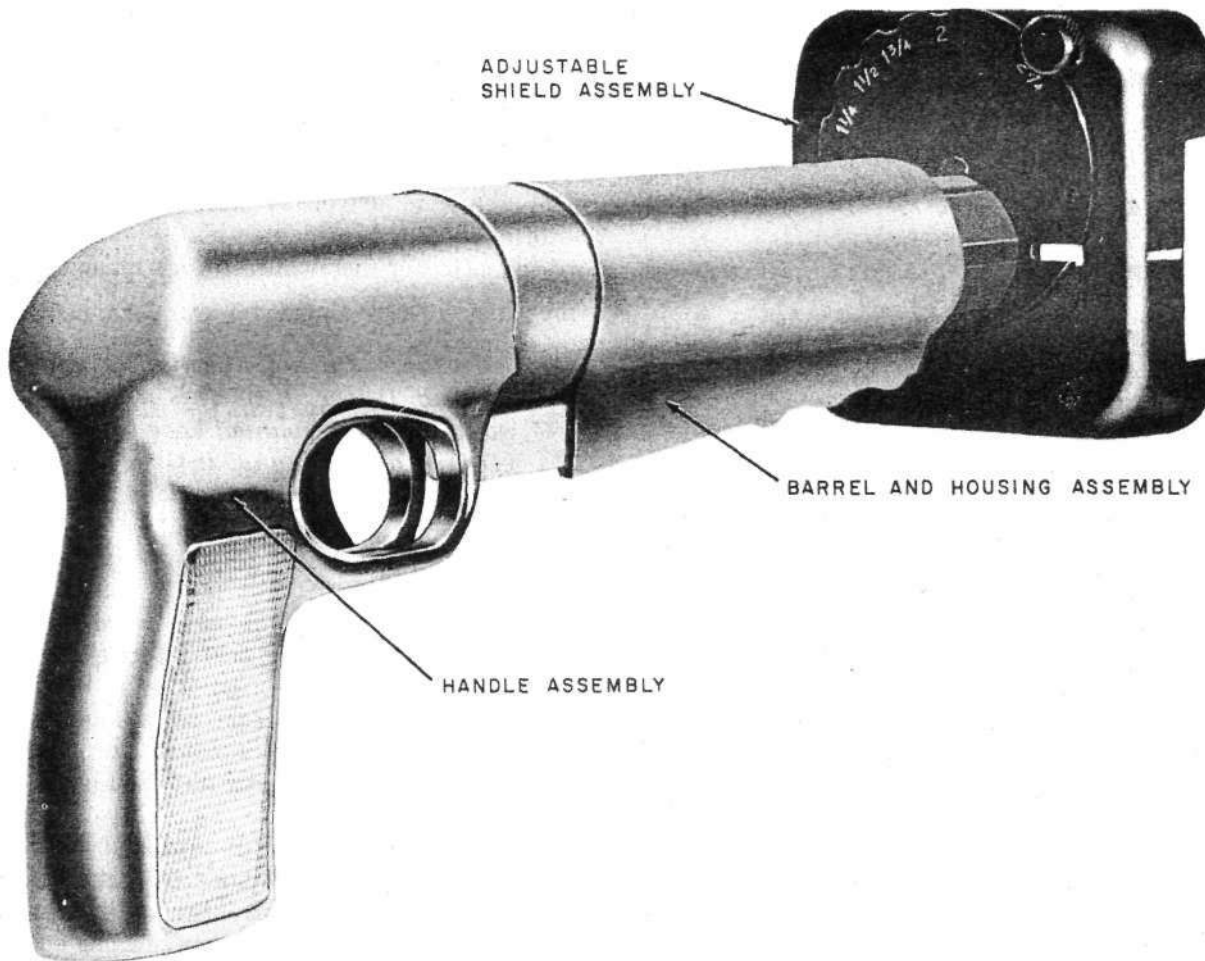

Fig. 1—Typical Stud Driver
2.01 The B Stud Driver is a powder-actuated, low-velocity tool that utilizes the energy from a special cartridge (the B or C Power Load) to drive a piston that acts as a hammer which sets a masonry fastener into steel or concrete. A typical stud driver is illustrated in Fig. 1.